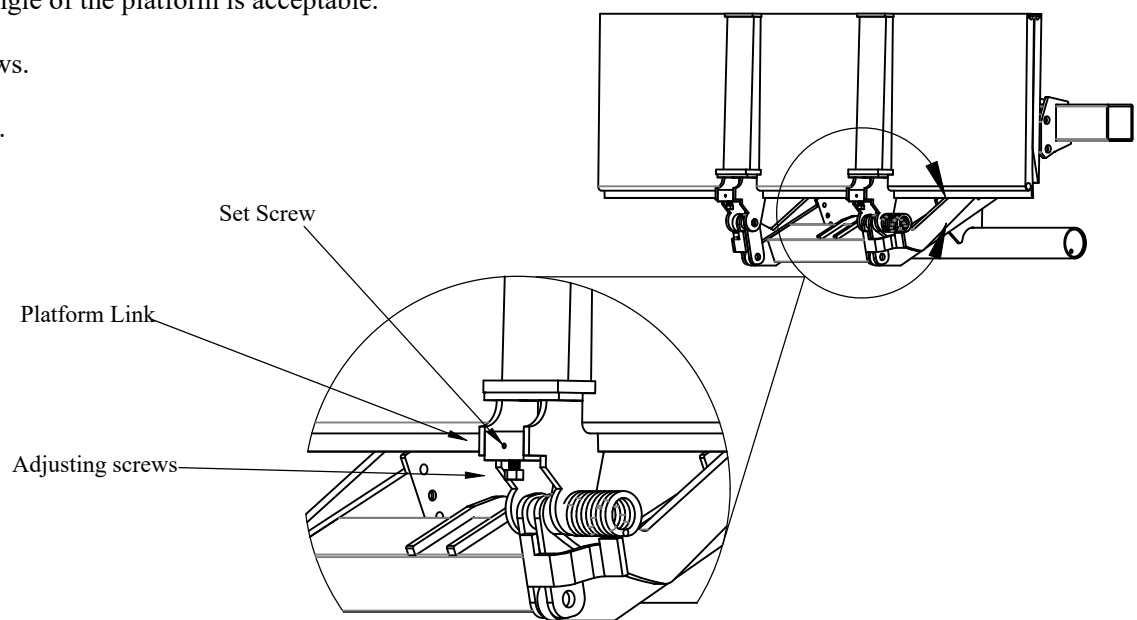

Figure 9: Platform Adjustment.
1. **Position** the liftgate so that the lift arms are touching the ground, but the platform is still folded (Figure 9).